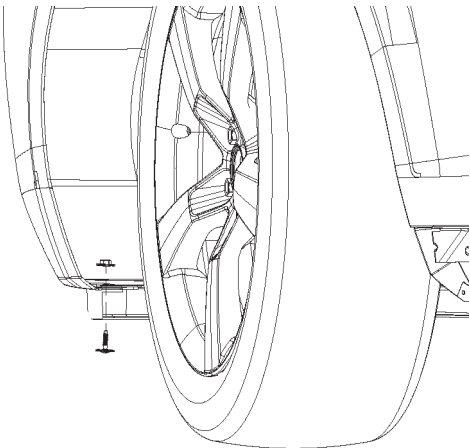

FIGURE 32
6. Remove Plastic bolt and nut from air dam and discard. 1 per side. Refer to figure 32.